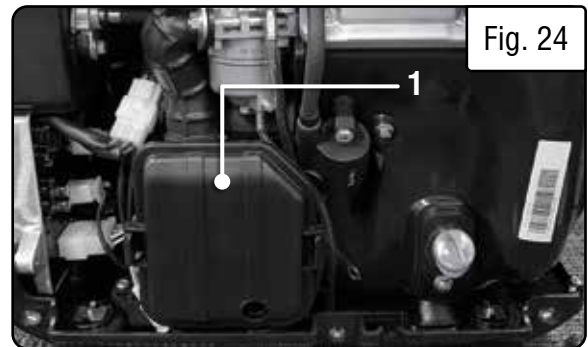

Fig. 24
2. Open the air filter cover (Fig. 24 - 1), and remove the foam air filter element from the casing.